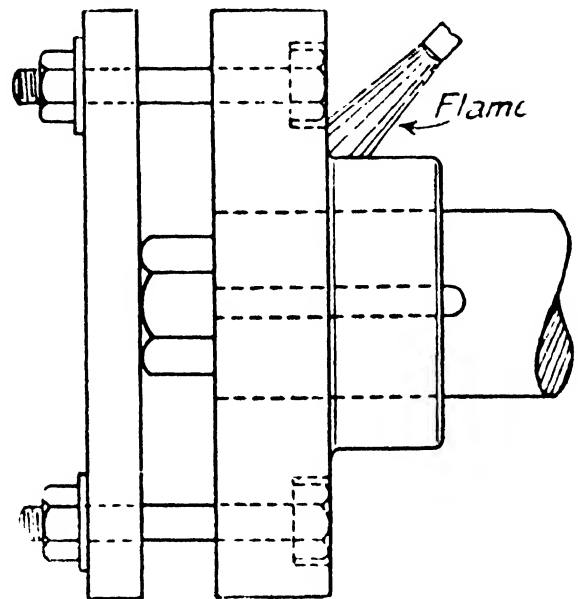

FIG. 56.
It is not supposed that any coupling need be drawn (taken off), but if this should be required, the sketch (Fig. 56), will explain how to set about it. First get the length of shafting up to a convenient height, then with a good stout flat-bar or fish-plate, two bolts of convenient length, a small block of iron or a large nut, and a quantity of washers for the taking
**Types of Couplings.**—The coupling shown in Fig. 56 is a flat faced one. With this type the concentricity depends entirely upon the bolts, therefore they are not recommended for first-class work. The better class coupling have male and female parts accurately machined, and these make the truth of the line irrespective of the bolt holes; they also have recesses for both heads and nuts of the bolts so that nothing projects.
**Cutting Keyways and Fitting Keys.**—But a generation ago there were to be seen in many works men who could cut keyways and fit keys with such remarkable precision and finish that one would ascribe the work to mechanical means. To-day there is machinery to do all this, except on site work. The erecting engineer must be very cautious in selecting his man to cut keyways and to fit keys, for much depends on them. The keyways to be cut will always be in the shafting, as the pulleys and couplings are machined at the works. The keyways in the ends of shafting for couplings are stopped short, as shown in Fig. 56, but for pulleys they usually need to